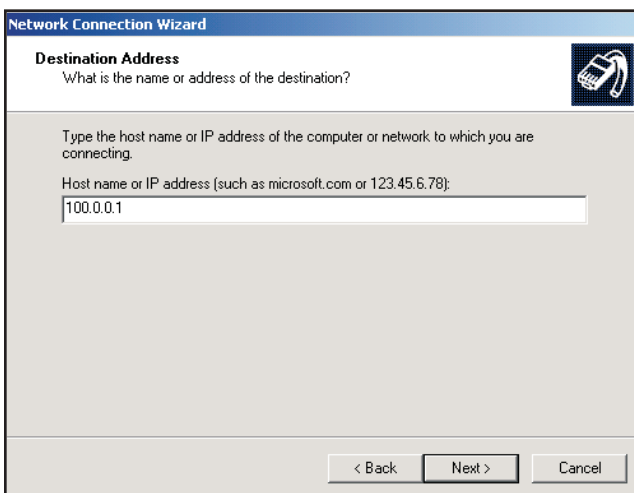

Figure 212 Entering the IP Address
7. Enter a Host IP of 100.0.0.1 as shown in Figure 212. Click on **Next**.